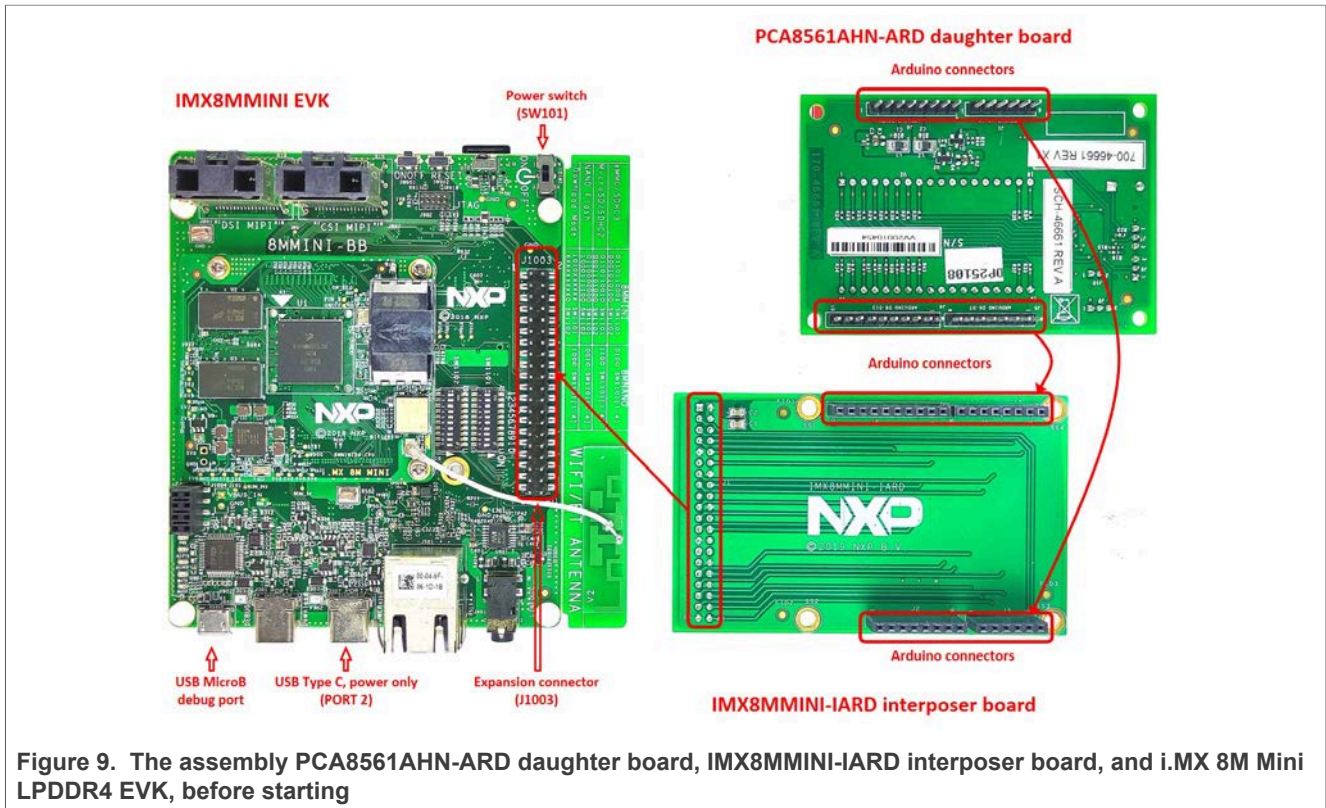
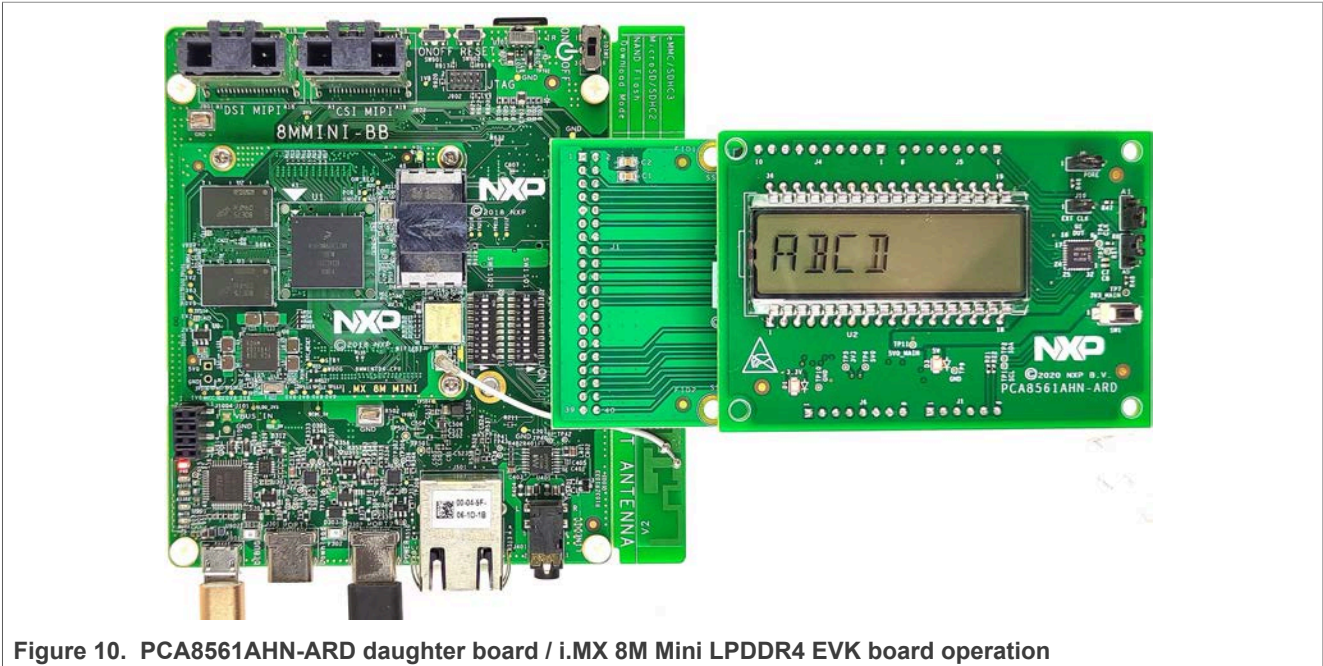

Figure 9. The assembly PCA8561AHN-ARD daughter board, IMX8MMINI-IARD interposer board, and i.MX 8M Mini LPDDR4 EVK, before starting
Figure 10. PCA8561AHN-ARD daughter board / i.MX 8M Mini LPDDR4 EVK board operation
To operate the setup, along with the EVK and the daughter board, a third board must be included in the setup assembly. Figure 9 shows the necessary boards and how these boards are connected. The configuration consists of:
To power-up the EVK, an USB-C type cable connected to PORT 2 of the EVK is used. The power switch SW101 on the EVK board must be set to ON position to power-up the setup. Data communication is achieved by routing a separate USB (Micro-B type) cable from an USB port on the PC to debug port (J901) on the EVK (see Figure 9 and Figure 10).
2. Attach IMXMMINI-IARD connector plug J1 (located on the bottom of the board) into J1003 expansion board located on the top side of i.MX 8M Mini LPDDR4 EVK (see Figure 9)